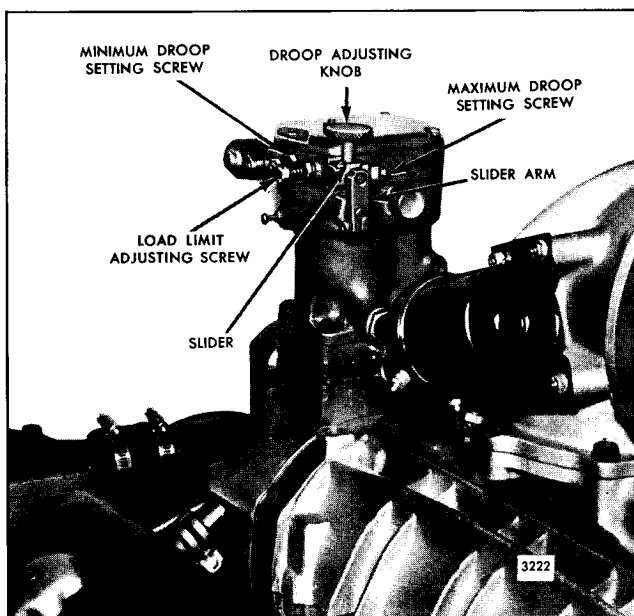

Fig. 8 - External Droop Control on PSG Isochronous Governor
Some PSG type governors are equipped with an external adjustable droop control (see Fig. 8). This enables the speed droop to be adjusted without removing the governor cover. With this feature, a unit can be paralleled with another unit that is operating at constant frequency (zero droop). The incoming unit must have its droop bracket set in the maximum position while it is being paralleled and while operating in parallel. When it is desired to stop the unit operating at constant frequency, shift the load to the incoming unit and move the governor droop bracket to zero droop. Then, adjust the outgoing unit to maximum droop, remove it from the line and stop the engine. The incoming
5. Loosen the droop adjusting knob (see Fig. 8) and move the slider all the way in toward the center of the governor. Then, tighten the knob.